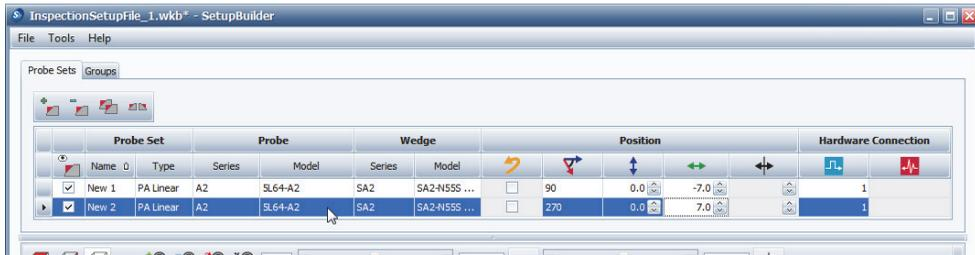

Figure 9-3 Selecting a probe set on the Probe Sets tab for cloning
1. In the list under the **Probe Sets** tab, select the probe set or sets you want to clone (see Figure 9-3 on page 94).